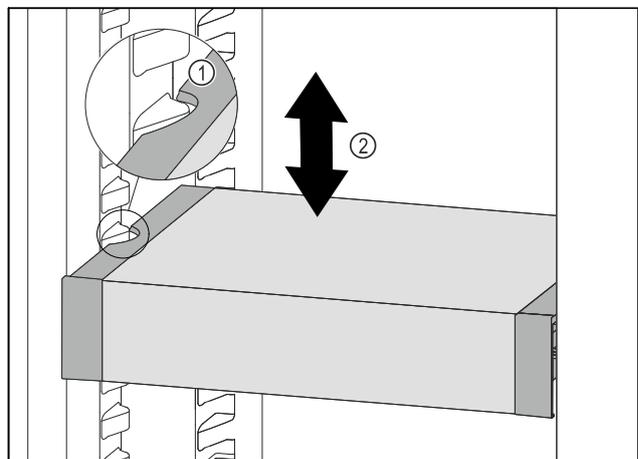

Fig. 80
- ▶ Pull VarioSafe forwards until the recesses in the side of the VarioSafe are at the level of the support rib in the refrigerator compartment. Fig. 80 (1)
- ▶ Move VarioSafe up or down in the refrigerator compartment until the desired height is reached. Fig. 80 (2)